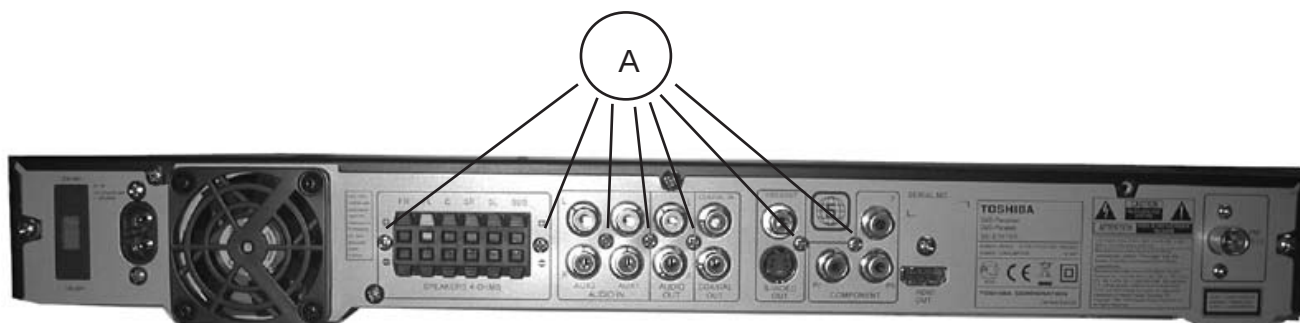

Figure 4
- 1) Loosen 7 screw "A" at the back panel as shown in figure 4.